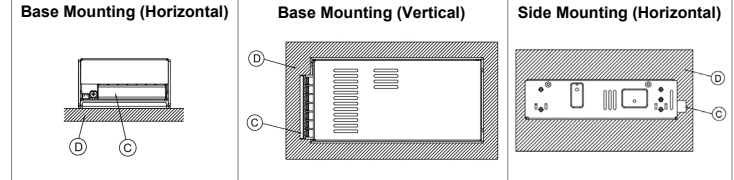
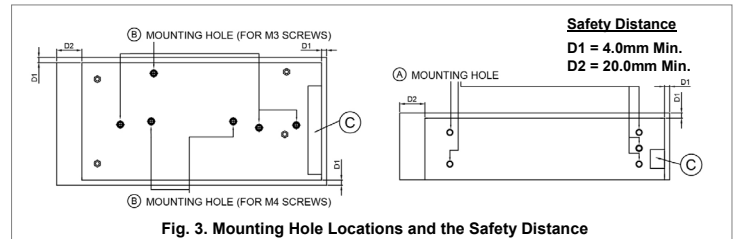
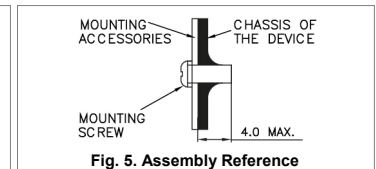

Fig. 2: Mounting Orientation
Fig. 3: Mounting Hole Locations and the Safety Distance
Fig. 5: Assembly Reference
- For safety reasons, please ensure the mounted device is kept at  $\geq 4\text{mm}$  safety distance at all sides from other components and equipments. In addition, to ensure sufficient convection cooling, always maintain a distance of  $\geq 20\text{mm}$  from ventilated surfaces while the device is in operation (Refer to Fig. 3).
- ① Input & Output terminal block connector
- ② DC voltage adjustment potentiometer
- ③ DC OK control LED (Green)
- ④ Remote ON/OFF function connector (Option)
- Ⓐ Side Mounting: Fig. 2 and Fig. 3 show the mounting hole locations for power supply assembly onto a metal mounting surface. The power supply shall be mounted on minimum of 4 mounting holes using M4 screw of maximum 4mm length (Refer to Fig. 5). This is to maintain a safety distance between the screw and internal components.
- Ⓑ Base Mounting: Fig. 2 and Fig. 3 show the mounting hole locations for power supply assembly onto a metal mounting surface. The power supply shall be mounted on minimum of 4 mounting holes using M3 or 2 mounting holes using M4 screw of maximum 4mm length (Refer to Fig. 5). This is to maintain a safety distance between the screw and internal components.
- Ⓒ Fig. 2: Connector
- Ⓓ Fig. 2: This surface belongs to customer's end system or panel where the device is mounted.